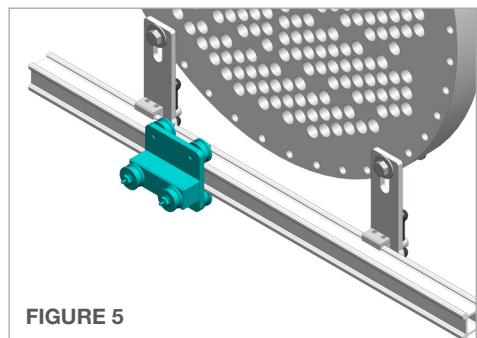

FIGURE 5
- Slide the **Idler Carriage** onto the Lower Non-Slotted Rail. (**Figure 5**)